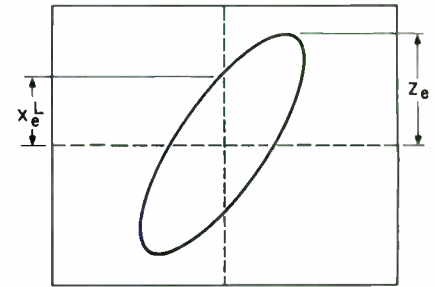

FIGURE 6: Values for impedance and inductive reactance are read from the oscilloscope.
7. Measure the vertical height of the oval where it intersects the Y-axis line. This is the inductive reactance  $X_L^i$  of the driver at this frequency. Figure 6 shows a typical picture. The measurements below the center line should be equal to those above.